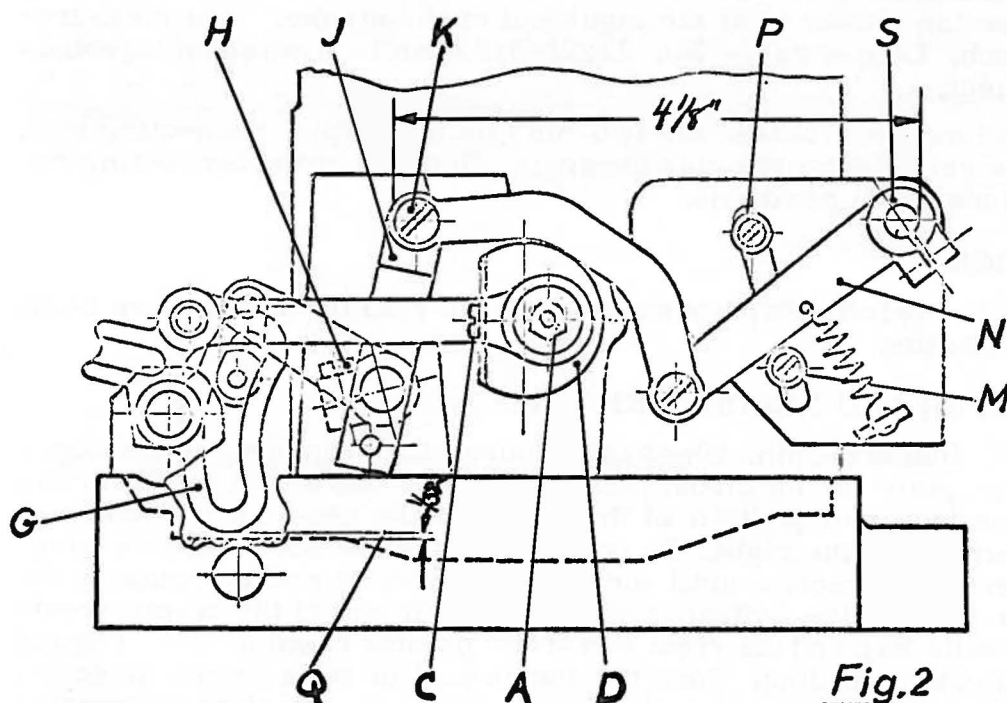
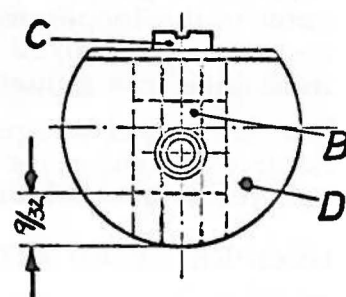

Fig.2
Fig.3
First adjust the feed rocker segment (G) to the largest movement by the regulating screw (C) after loosening nut (A, Fig. 2).
(CAUTION! NUT HAS LEFT THREAD). The distance from the main shaft head (D) to the head of the feed crank stud (B) should be 9/32 inch (Fig. 3). As the movement of the feed rocker segment is limited by the bed, make sure that the free space (Q) is not less than 1/32 inch (Fig. 2).